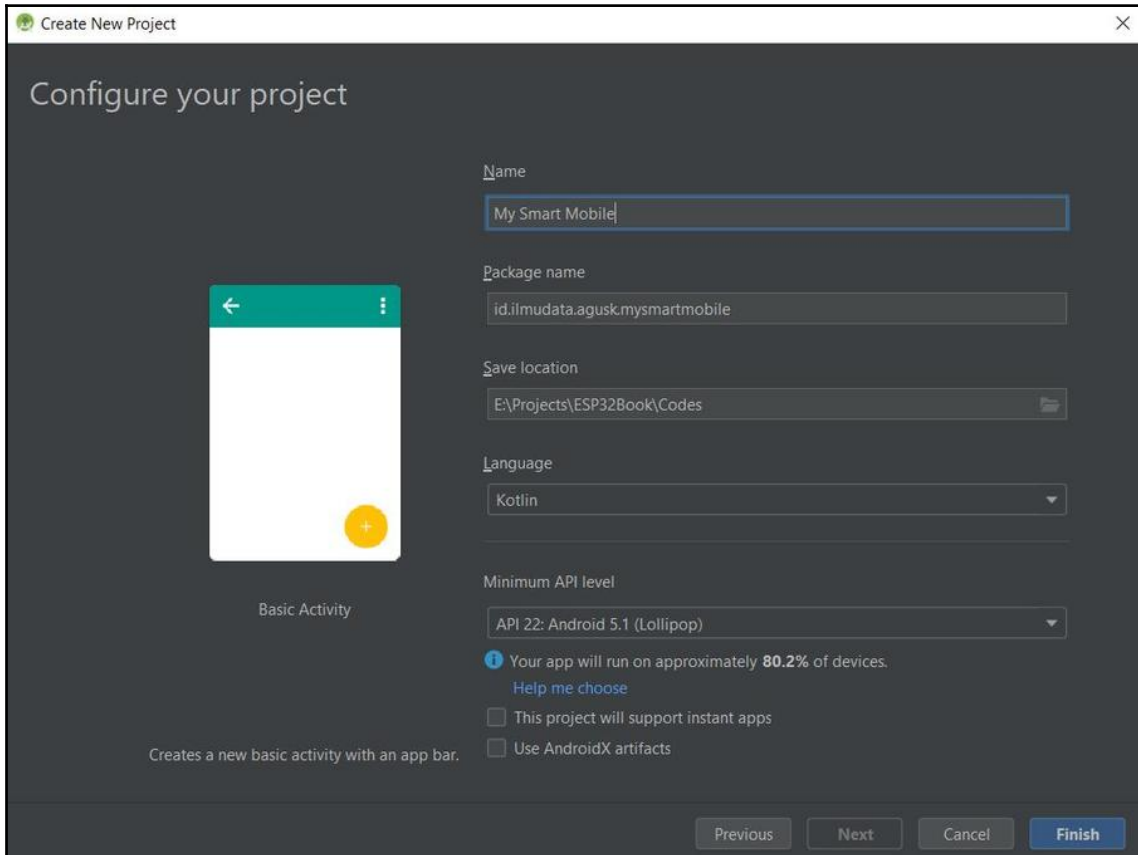
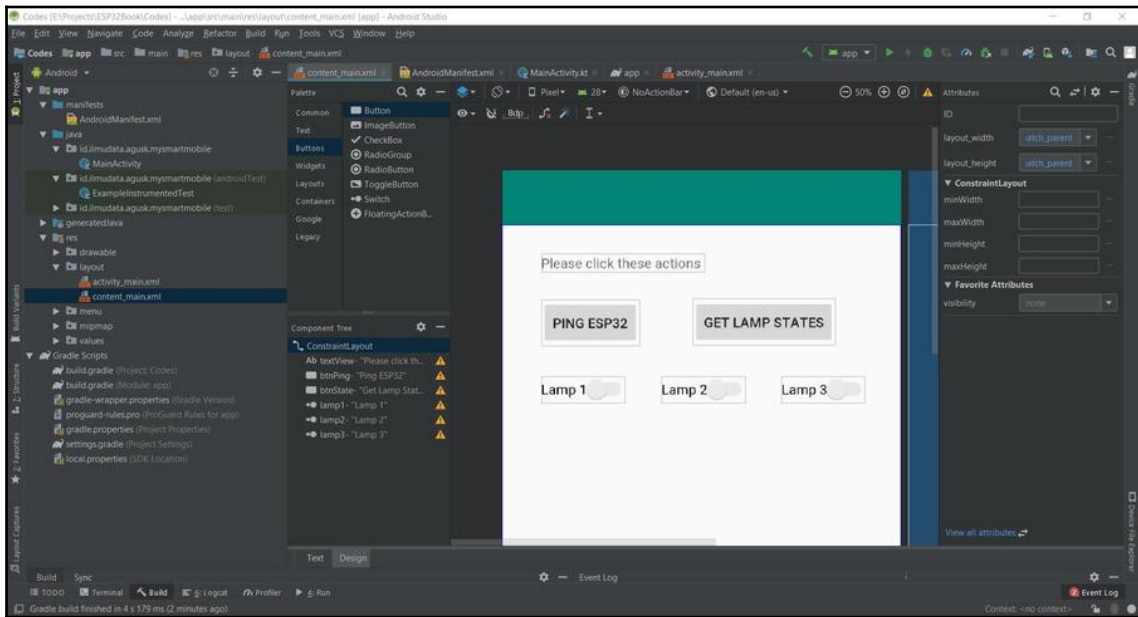

Figure 9.4: Setting the project configuration
Figure 9.5: Developing the UI for the Android application
2. You will get a form as shown in *Figure 9.4*. Fill in your project name and select **Kotlin** as the programming language. For **Minimum API level**, you can select your own API. In this project, I used **API 22: Android 5.1 (Lollipop)**:
3. After all the fields in the form's dialog box are filled in (as seen in *Figure 9.4*), we click on the **Finish** button. You will get your project files and configurations in Android Studio (refer to *Figure 9.5*).
1. We will design our UI as shown in *Figure 9.5*. The **PING ESP32** button is used to perform the `/ping` request to the ESP32 board, while the **GET LAMP STATES** button is used to get lamp states from the `/state` request to the ESP32 board.